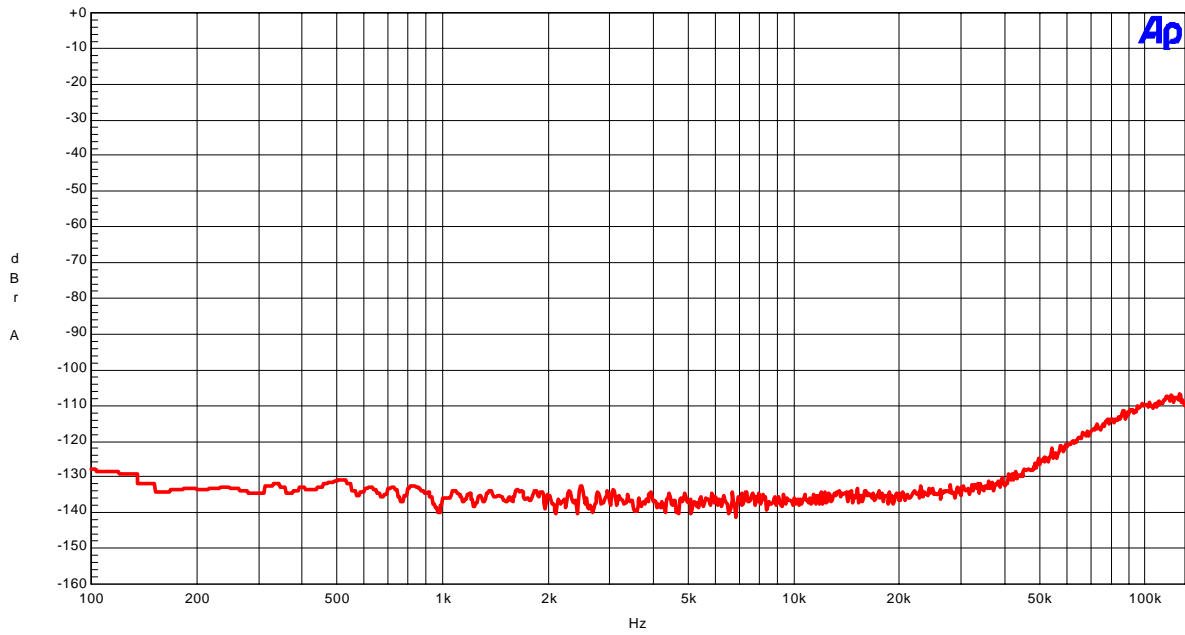

Figure 19. FFT (out-of-band noise)
- Figure 19. FFT (outband noise)